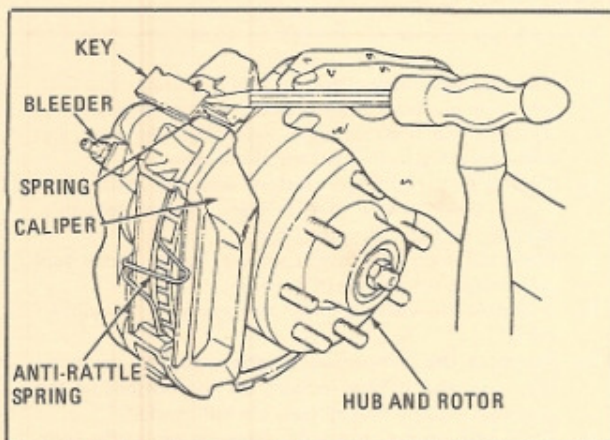
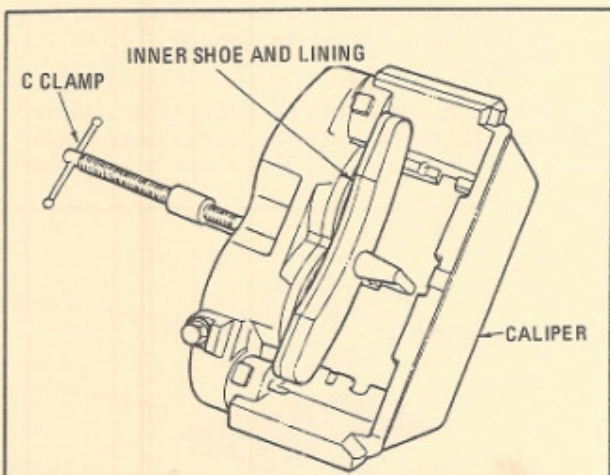

Figure 156 — Removing Spring and Key
Figure 157 — Bottoming Caliper Pistons
4. Using a brass rod and light hammer, drive out the key and spring, (see figure 156). It is not necessary to disconnect the hydraulic line to the caliper.
8. Place a C-clamp on the caliper housing midway between the piston bores, (see figure 157), and using the old inner shoe and lining over the pistons, tighten the clamp to bottom the caliper pistons in the cylinder bores. Remove the clamp and the inner shoe lining assembly.
4. Position the key and spring, (figure 156), and hand start the subassembly between the caliper and support. Note that the spring is between the key and caliper and that the spring tangs overlap the end of the key, (figure 157). Use a brake adjusting tool or screwdriver to hold up the caliper, if required, against the support assembly.